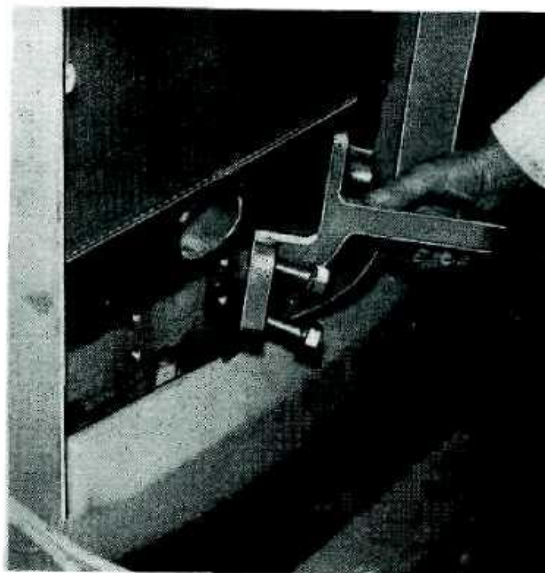

Fig. C.3 — Removing Front Drawbar
7. Remove the front drawbar (four bolts). (See Fig. C.3).